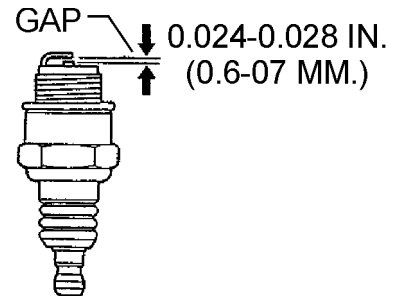

Figure 21. Spark Plug Gap
1. Remove and clean the spark plug (Figure 21), then adjust the spark gap to 0.024 ~0.028 inch (0.6~0.7 mm). This unit has electronic ignition, which requires no adjustments.